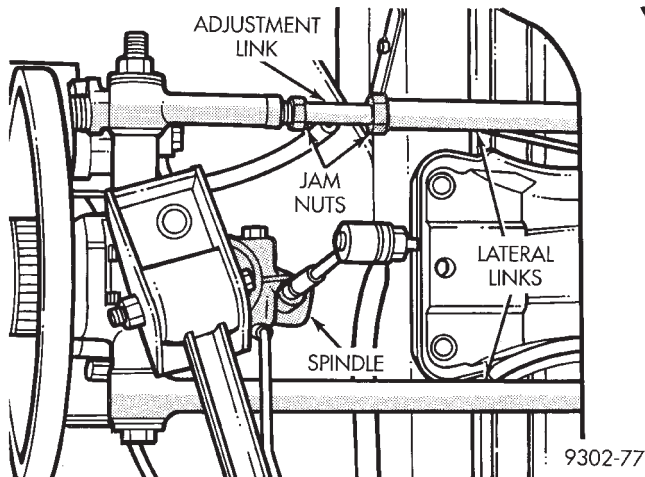
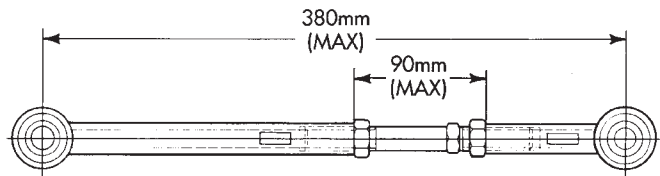

Fig. 9 Rear Wheel Toe Adjustment
Fig. 10 Lateral Link Maximum Length Dimensions
(1) Loosen lateral link, adjustment link jamnuts (Fig. 9). Rotate adjustment links as required to set rear wheel Toe to specifications. **Do not exceed the maximum length dimensions of the lateral links shown in (Fig. 10). Both dimensions must be checked to ensure they do not exceed maximums allowed.**
CAUTION: When setting rear "Toe In" on vehicle. The maximum lengths of the adjustable lateral link at the locations shown in (Fig. 10) must not be exceeded. If these maximum lengths are exceeded, inadequate retention of adjustment link to the inner and outer link may result. Ensure that the adjustment sleeve jam nuts are torqued to the required specifications when the Toe setting procedure is completed.